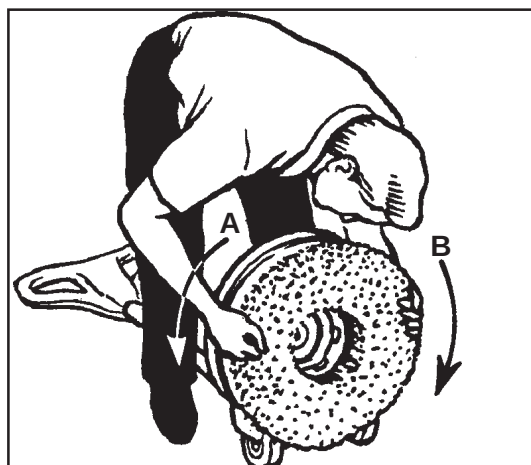

Figure 2
3. Tilt the machine backward until the handle is on the floor. See figure 2.
4. Put one foot on each side of the machine. See figure 2.
6. To lock the brush or pad into position, turn the brush or pad driver as indicated in figure 2 (A).
7. To unlock and remove the brush, turn the brush or pad as indicated in figure 2 (B).